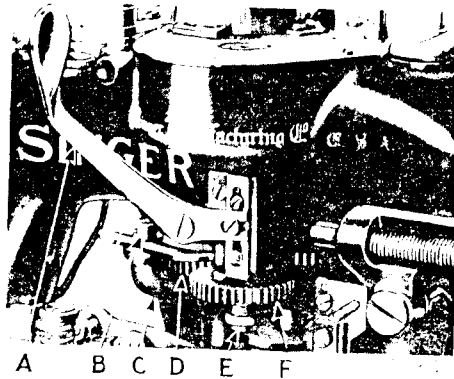
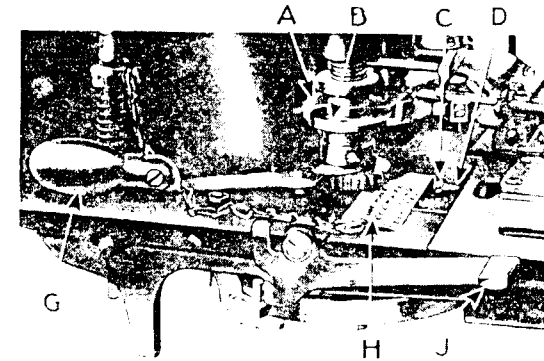

Fig. 16. Mechanism for Disengaging Stitch Regulating Gear
Fig. 17. Showing How to Regulate Length of Buttonhole
Press down the forward end of the stop lever (J, Fig. 17) and the machine will immediately stop with the needle at its highest point. Then with the right hand push the stitch gear disengaging lever (A, Fig. 16) backward to disengage the stitch regulating gear (F, Fig. 16) and while holding the lever (A) backward, operate the hand ratchet lever (G, Fig. 17) with the left hand until the work clamps are moved to the desired position.
To reengage the stitch regulating gear (F), release the disengaging lever (A, Fig. 16) and operate the machine slowly by means of the hand ratchet lever (G, Fig. 17) until the slot in the stitch regulating gear engages the driving pin in the shaft.
CAUTION: Under no circumstances can the machine be hand ratcheted unless the stitch regulating gear (F, Fig. 16) is disengaged. When changing the stitch regulating gear, be sure that the gear slides freely on the shaft and clamping nut sleeve (E, Fig. 16).
Remove the slide from the left side of the bed of the machine. The gauge (H, Fig. 17), furnished with the machine, is marked
according to the style of bar with numbers corresponding to the different lengths of buttonholes that can be made by the machine. The gauge (H) is also marked with the letters A, B and C which correspond to similar letters stamped on the collar (B, Fig. 17) of machines fitted with thread trimmers, for positioning the needle thread retrimming cam.
Loosen the nut (C, Fig. 17) and place the gauge in the slide-way as shown in Fig. 17, having the number on the gauge for the desired length of buttonhole opposite the line in the slideway. Then move the regulating lever (D, Fig. 17) until the sleeve under the nut (C) rests against the downward projecting part of the gauge and tighten the nut (C). Now, raise the cam (A, Fig. 17) and turn it until the pin enters either of the holes A, B or C, in the collar (B) according to the letter indicated on the gauge opposite the length of buttonhole for which the machine is being adjusted. Then replace the slide in the bed of the machine.
The number of stitches in the buttonhole is controlled by the stitch regulating gear (F, Fig. 16) at the right hand side of the machine. When it is desired to change the number of stitches in the buttonhole, it will only be necessary to change the stitch regulating gear. To remove this gear, loosen the screw (B, Fig. 16) and swing the bracket (C, Fig. 16) with the large gear (D, Fig. 16) out of mesh with the stitch regulating gear (F).
Then remove the nut (E, Fig. 16) and remove the stitch regulating gear (F) from its shaft.
Having selected the gear desired, place it in position on its shaft and securely fasten it with the nut (E, Fig. 16) below it. Swing back the bracket (C, Fig. 16) as far as it will go to bring the large gear (D, Fig. 16) into mesh with the stitch regulating gear (F, Fig. 16). Then securely tighten the screw (B, Fig. 16).